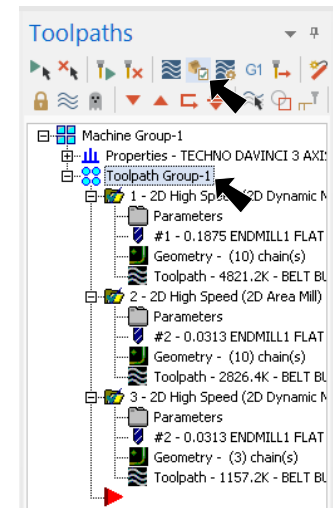

Fig. 70
Step 3. Click **Toolpath Group-1** in the Toolpaths Manager to select **all 3** toolpaths, Fig. 70.
Step 4. Click **Verify**  in the Toolpaths Manager, Fig. 70.
Step 5. Click **Play**  (R) in VCR bar along bottom of the window.